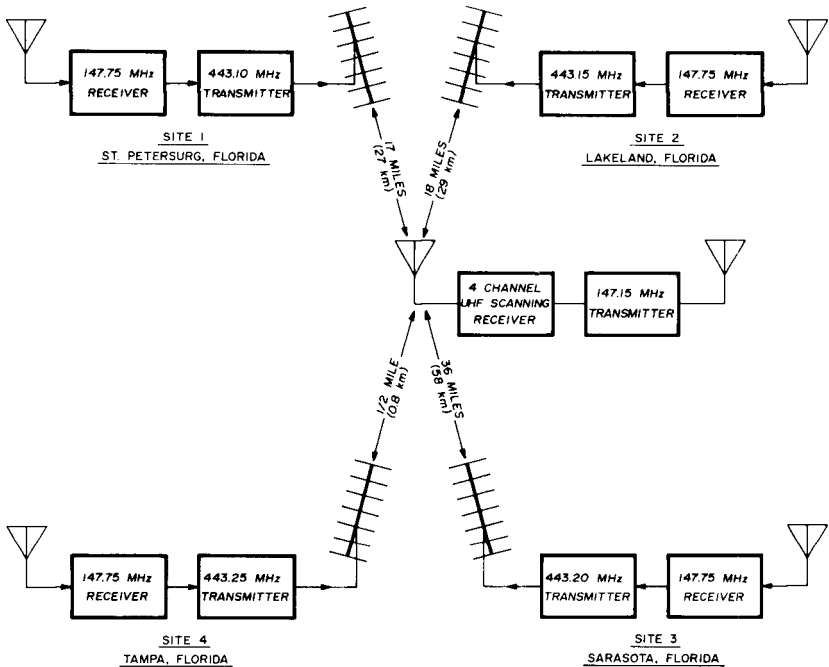

fig. 1. Satellite receivers expand the two-way coverage area of repeater WR4ALT in Tampa, Florida.
channel scanner receiver was built for the 450-MHz band. Fig. 1 shows how this is used in our satellite system.
**Fig. 1** is the schematic of the crystal discriminator circuit. Capacitor C3 is adjusted for zero voltage with an unmodulated carrier at center frequency but this setting may not hold for all crystals, and it is possible to obtain good performance and good audio re-
**fig. 1.** Low cost fm crystal discriminator uses third-overtone channel-1 CB crystal (26.965 MHz) at its 9-MHz fundamental. Response curve of this circuit is plotted in fig. 2.